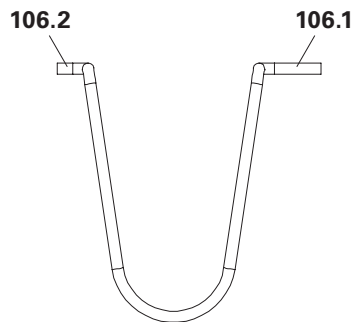
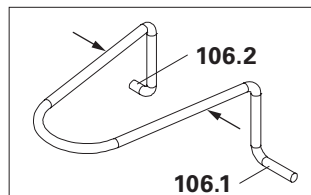
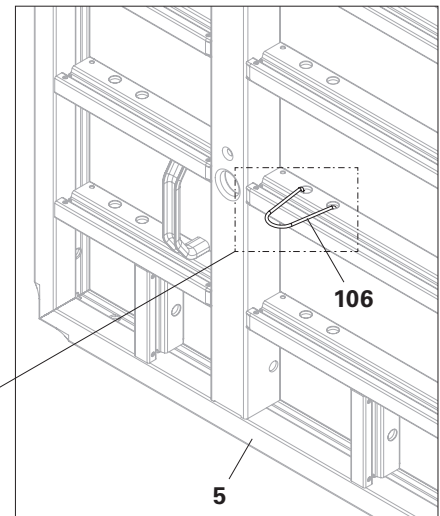

Fig. A8.01
Fig. A8.02a
Fig. A8.02
1. Press Tie Hanger MX (106) together sideways. (Fig. A8.02a)
2. First insert the bracket with the long end section (106.1) into the right-hand hole in Panel MX-2 (5).
- (Fig. A8.01 + Fig. A8.02)